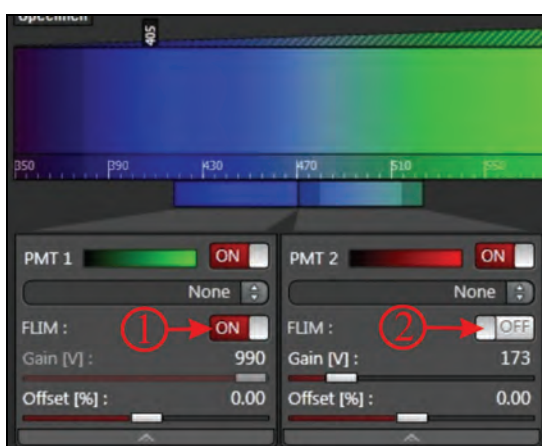

Figure 113: Selecting the operating mode of the internal SP FLIM detectors in Beam Path Settings
When you activate **FLIM** (switch is at **ON** – Figure 113, item 1), the **Gain** of the detectors is automatically set to a value of 990 V.
When switched to **OFF** (Figure 113, item 2), the detector can be used for normal image acquisition. You can also adjust the gain of the detectors as usual.